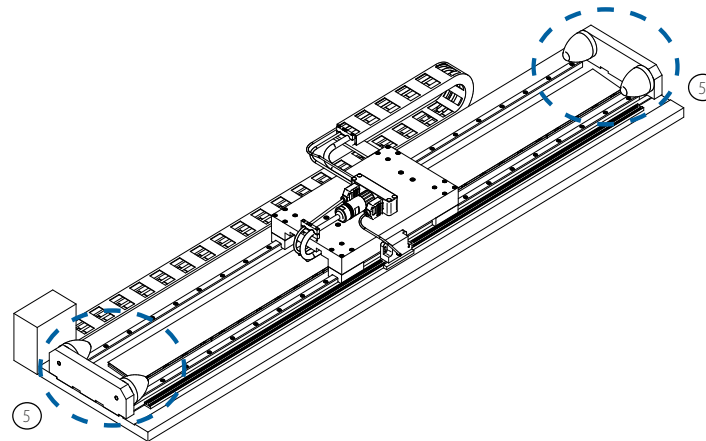

Figure 5.8: Cover in place with small overlay.
3. The cover can now be slipped over the magnet track. Position the cover so that there is a small overlay at each end of the stroke, see figure 5.8.